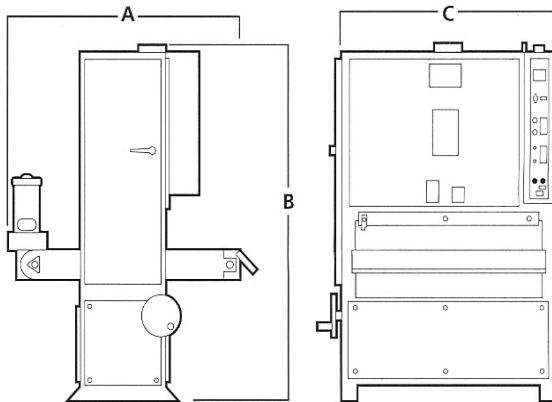

Figure 1: Machine Dimensions
2. Position the machine in its designated location in your shop. Consider the services of compressed air, dust collection and electricity. Also position the machine considering your environment's limitations for in-feed and out-feed space. See Fig. 1.